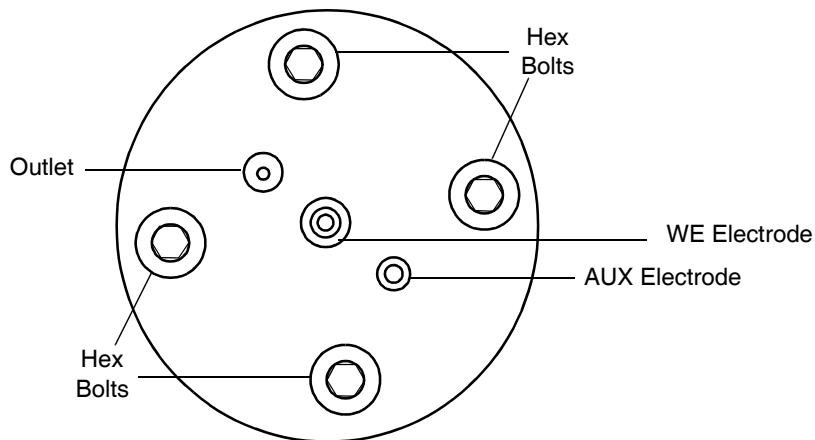

Figure 4-2 Removing the Bolts (Top View)
- Remove the bolts from the flow cell using the hex key (Figure 4-2). The hex key is supplied in the flow cell startup kit.